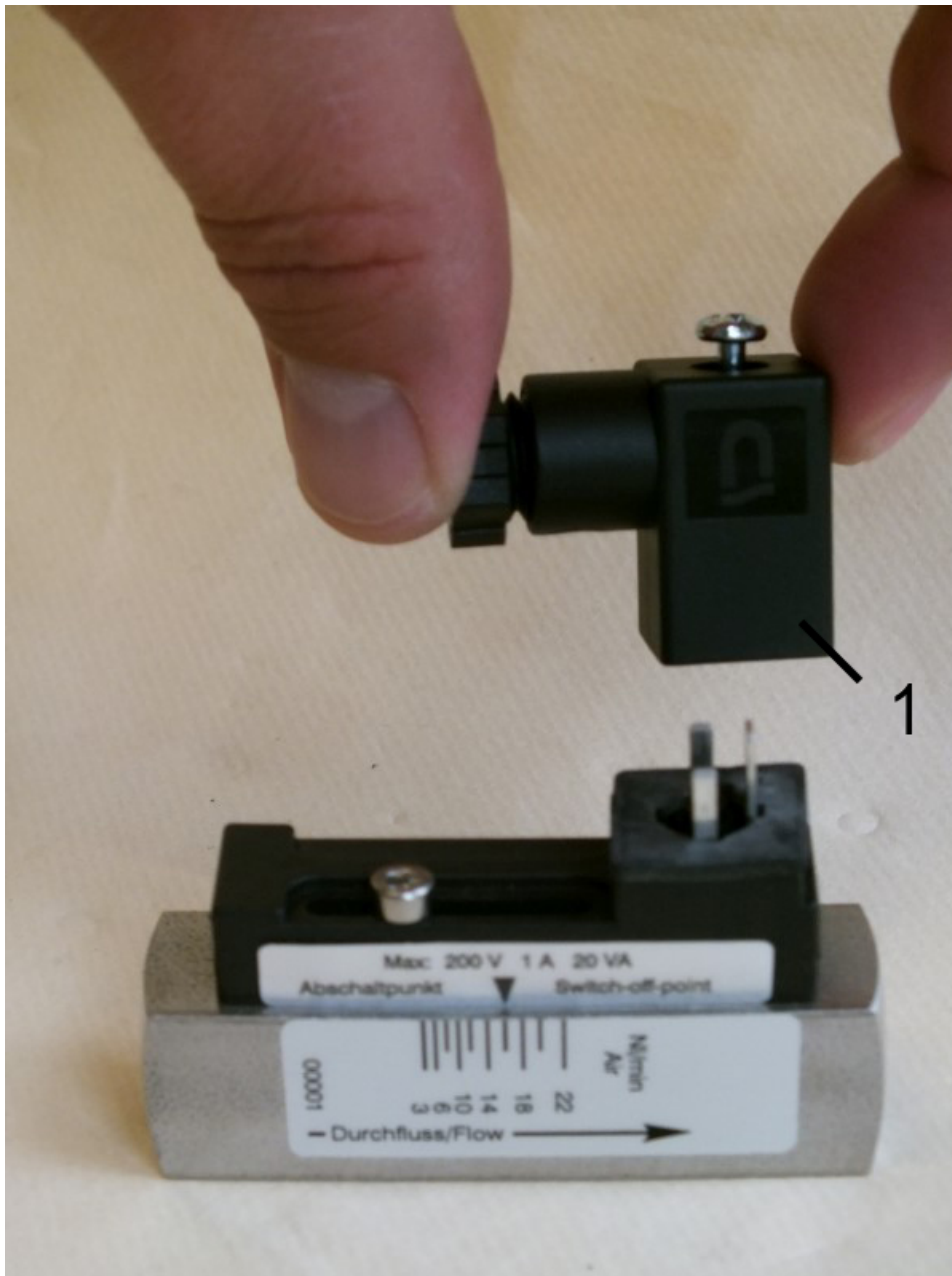

Fig. 50: Remove female socket
2. ➤ Remove the female socket and gasket (Fig. 50/1) by pulling upwards